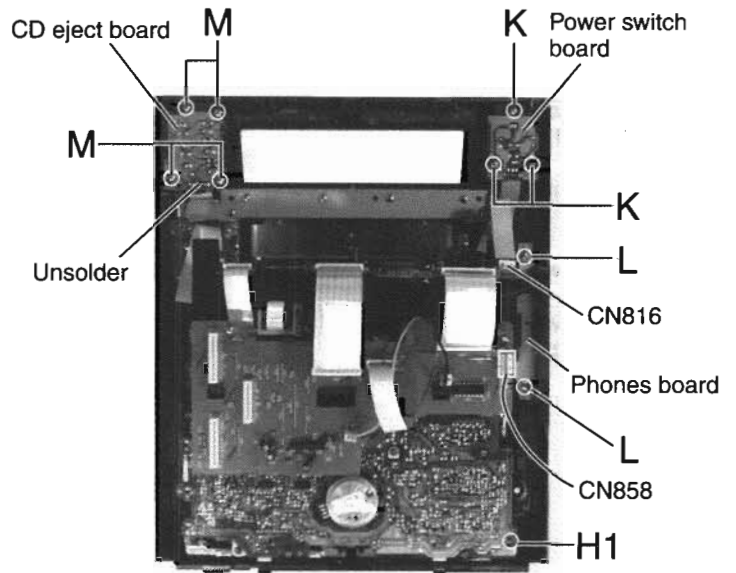

Fig.16
**■ Removing Each Board of the Front Panel Assembly** (See Fig.16 and 17)